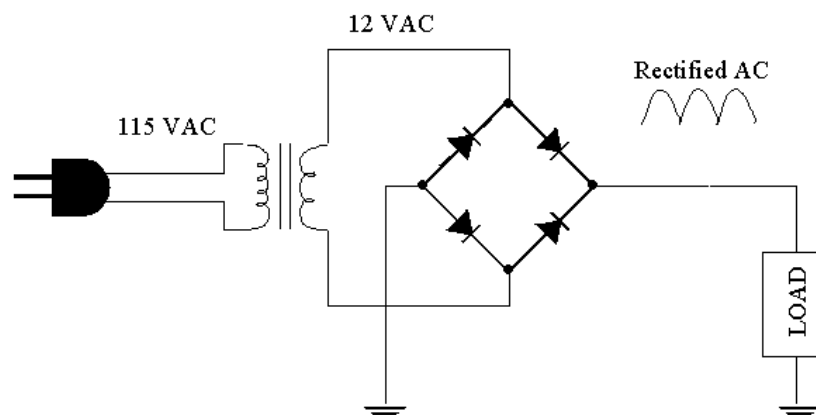

Figure 4.4.8: 12V rectified source
Step 2: rectification of the AC source. The AC source produces alternating positive and negative voltage. We only want the positive so we must take the negative swings and turn them around. To do this, we make use of a bridge rectifier. The diamond-shaped circuit element in Figure 4.4.8 is what we call a **bridge**. A full bridge has four terminals: two inputs and two outputs. We have a diode in each arm of the bridge, which allows current flow in only one direction. This configuration takes an AC current across the inputs and produces a rectified signal across the outputs.
Build the circuit shown in Figure 4.4.8, using a 1k resistor as the load. Look at the voltage across the resistor with your oscilloscope.